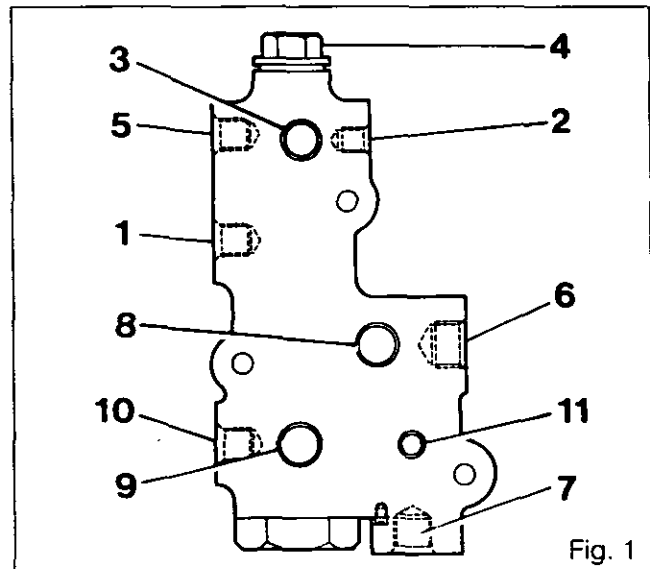

Fig. 1
When the needs of the low-pressure circuit are satisfied, the oil finally passes through the feed ports 8 and 10 (Fig. 1). Flow and residual pressure are regulated by a pipe 11 and a restrictor A, thereby maintaining a constant level in the brake and clutch master cylinders.
**Designation of ports (Fig. 1).**